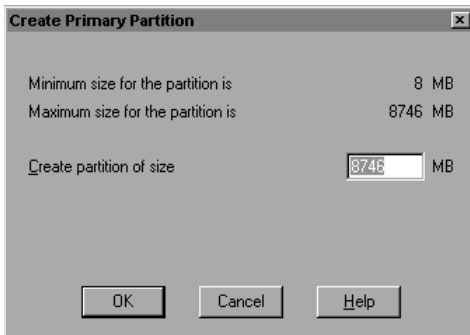

Figure 25. Create Primary Partition
- 5 From the Partition menu, choose Create. The Create Primary Partition dialog box appears (Figure 25).